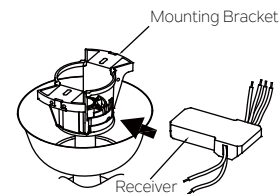

Fig. 13
Step 1. Insert the receiver into the mounting bracket, and keep flat in opposition of ceiling. (Fig. 13)